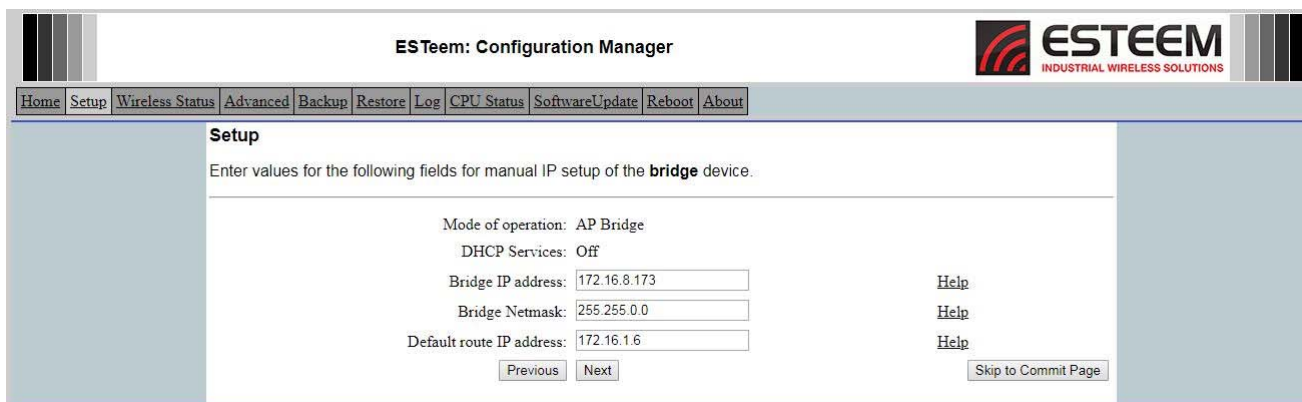

Figure 13: IP Addressing
- Enter the IP address, IP Netmask and default route IP (gateway) address for the radio being programmed (Figure 13). Press the “Next” button to proceed.